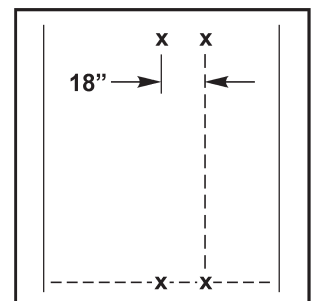

Figure 51
- Measure 18 inches to the RIGHT of each point and snap a vertical chalk line (see Figure 51).